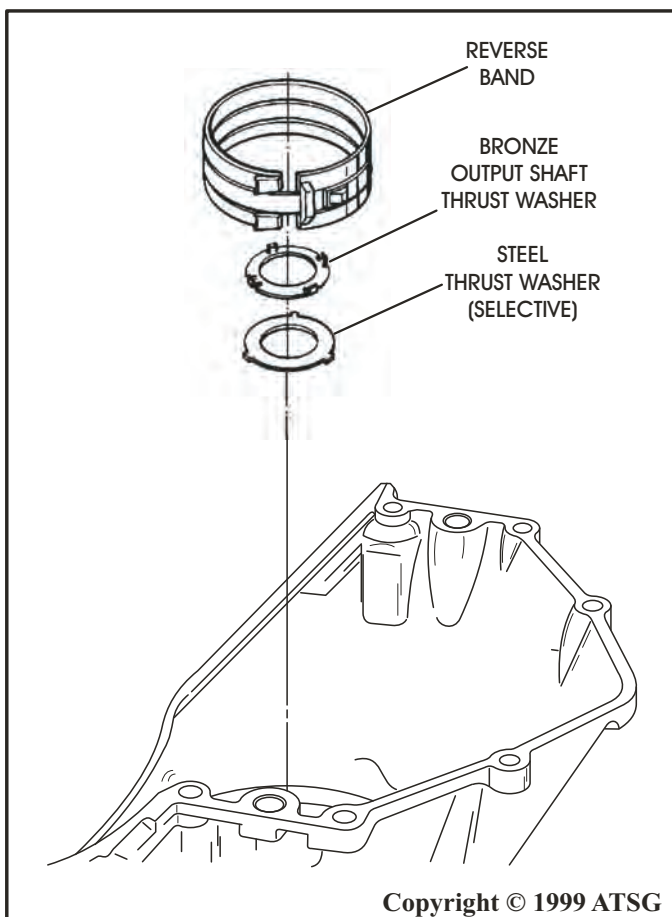

Figure 53
60. Remove the reverse band assembly from the transmission case, as shown in Figure 53.
61. Remove the bronze output shaft thrust washer from the case, if it is not stuck on the output shaft (See Figure 53).
62. Remove the steel *selective* thrust washer from the back of case, as shown in Figure 53.